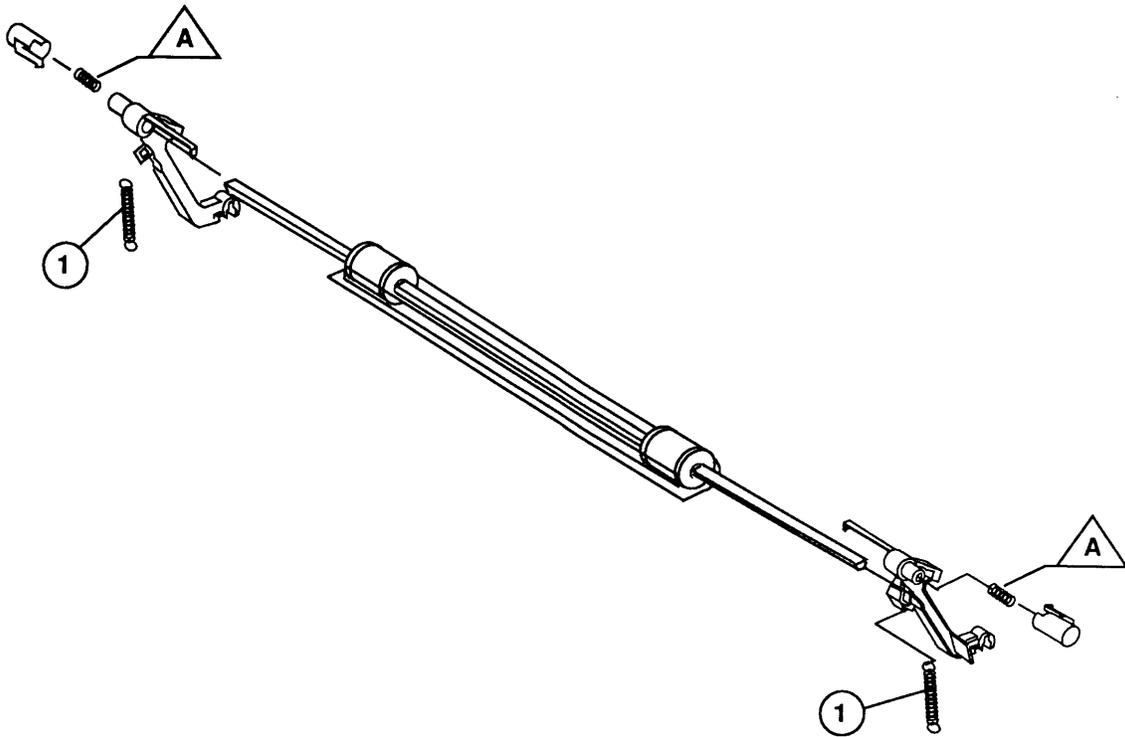

Figure 10
□ PAPER BAIL ASSEMBLY (Figure 10)